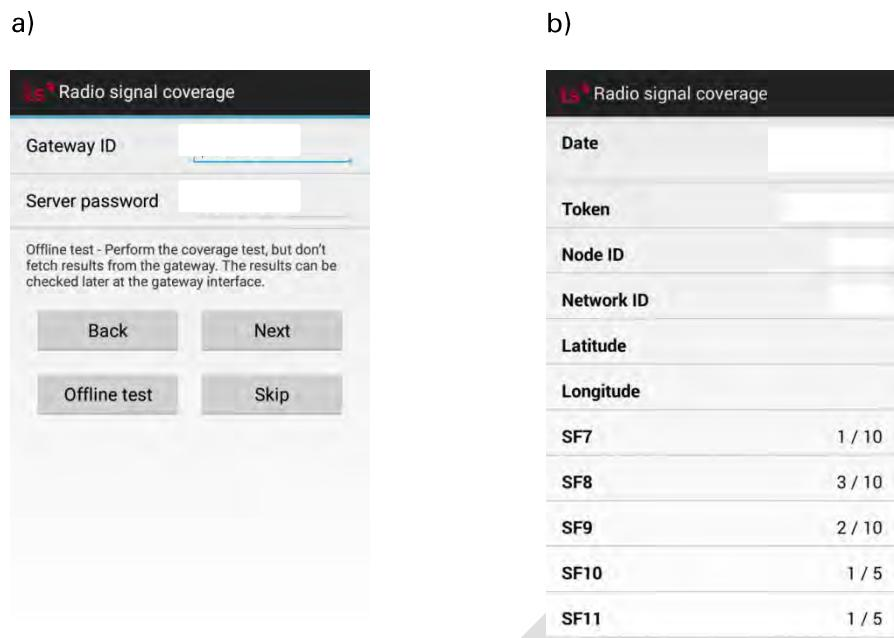

Figure 12: Radio signal coverage performed at the end of the datalogger setup (using the Setup wizard).
- 5) **Radio signal coverage test (only for radio models).** Once the gateway is configured, a signal coverage test can be performed (Figure 12). This test will check for correct connectivity between the datalogger and the gateway. Some test packets will be sent by the datalogger, and then the Android app will check on the gateway (using the Internet connection) for the reception of these packets. Hence, the test will check for: